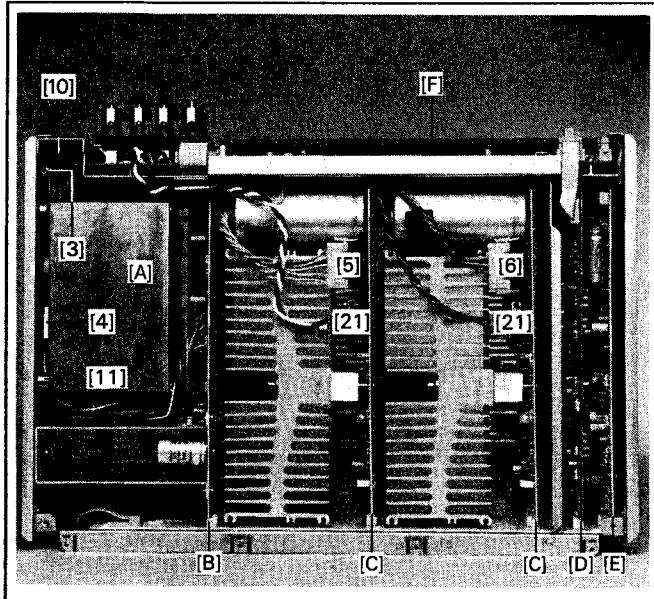

Fig.2.3
- Separate the three plug connections (16), (18), (20).
- Unplug and expose the two cables (21) to the output stages (Fig. 2.3).
- Unfasten the five mounting screws (22) of the circuit board.
- Unfasten the two screws (23) of the D-type connector on the bottom of the amplifier.